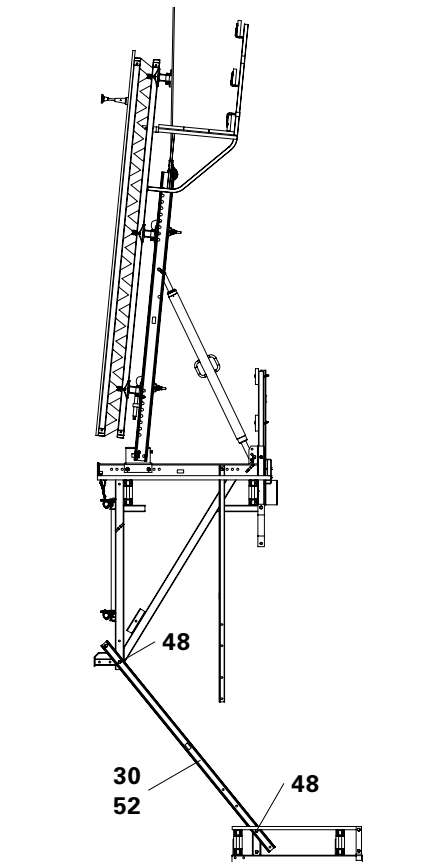
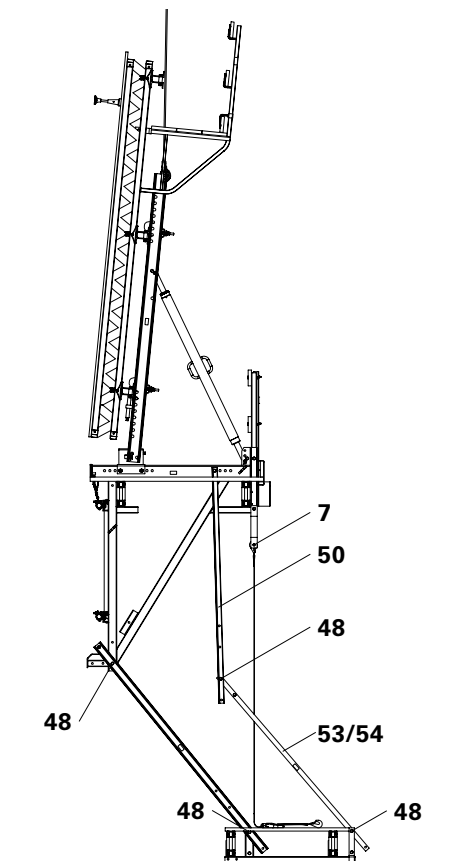

Fig. B1.25
Fig. B1.26
4. If necessary, firmly bolt the Platform Post CB 225 (30) to the Post Extension CB 180 (52), and attach to the bracket and finishing platform forming an articulated connection using Bolts ISO 4014 M16 x 130-8.8 (48). (Fig. B1.25) Depending on the concreting height, use top or bottom hole. (Fig. B1.26)
6. Fix the toe board at the lower end. (Fig. B1.26)